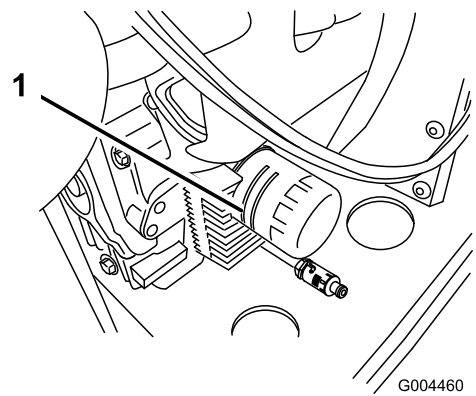

Figure 35
2. Remove the old filter and wipe the filter adapter gasket surface (Figure 35).